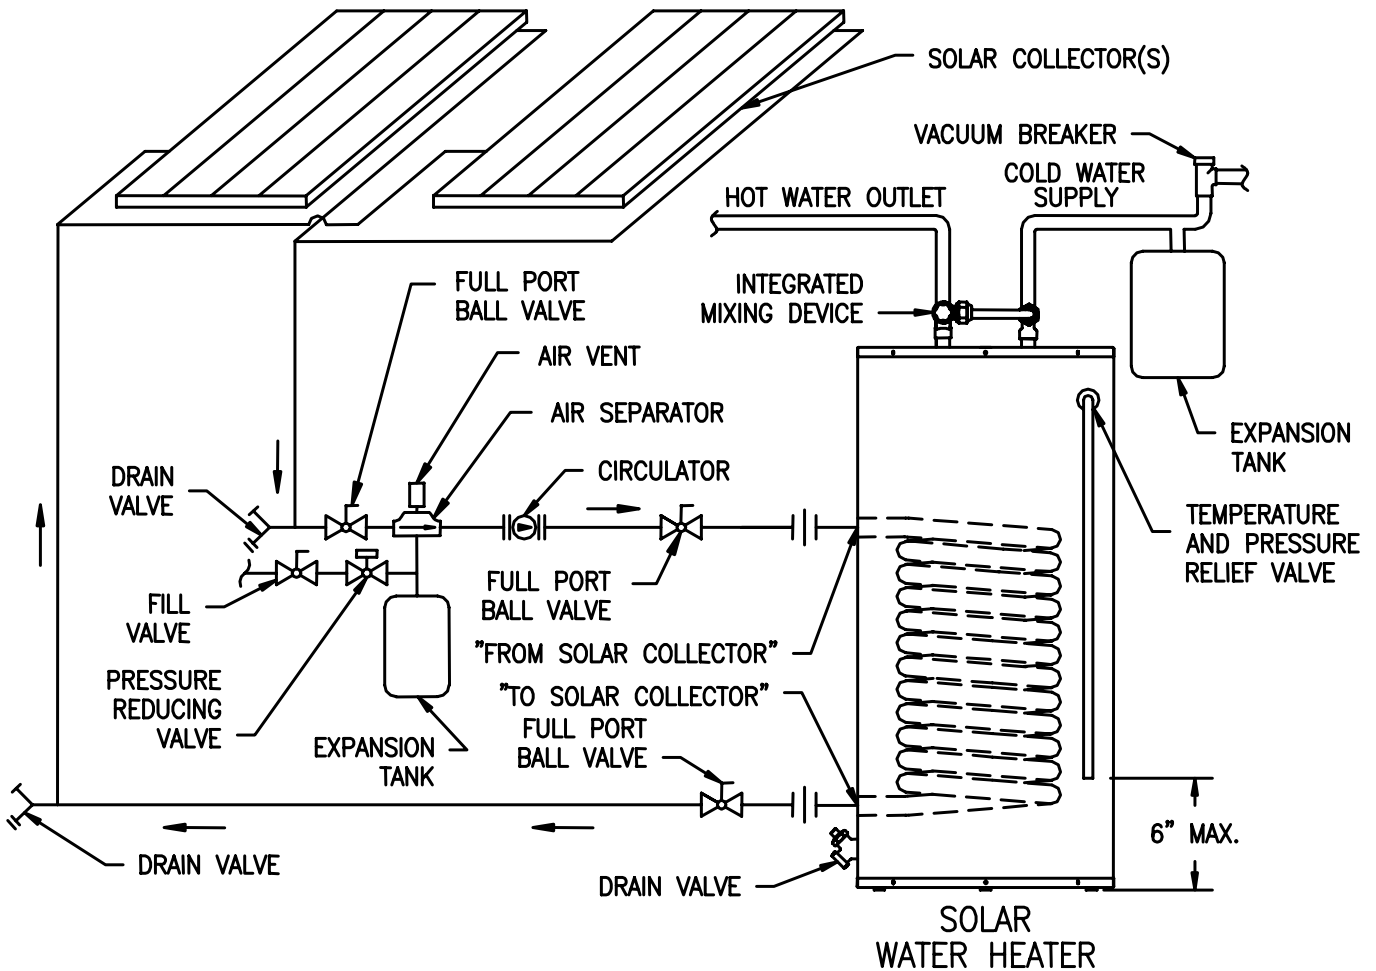

Figure 3 – Solar Collector Piping in Closed-loop Installation
1. For a closed loop solar heating system, refer to Figure 3. The solar water heater connection labeled “FROM SOLAR COLLECTOR” should be piped to the solar collector supply piping. Mount the circulator making sure the flow arrow points toward the water heater. The use of shut-off valves and unions are recommended for future service convenience. The use of an air separator and vent is recommended to eliminate air in the system. Pipe and fittings between the solar collector and solar water heater must be ¾” diameter or larger.